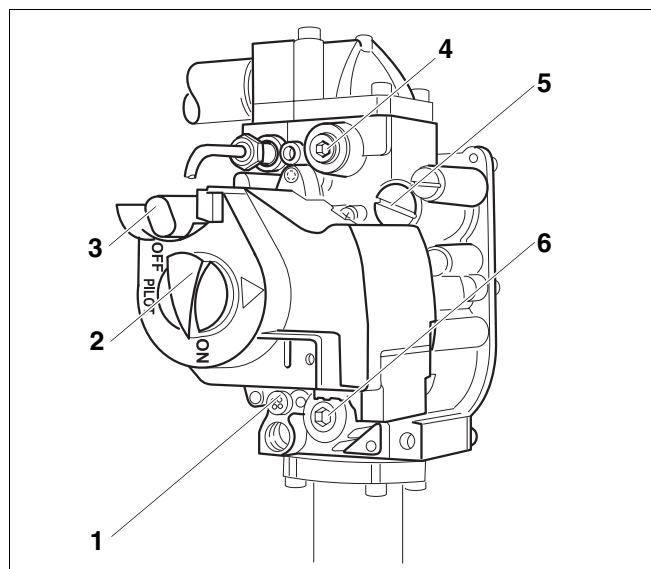

Fig. 16 G124X SP gas valve
46. Remove safety screw for pilot burner pressure setting (→ Fig. 16, page 16). Turn the inner adjustment screw clockwise to reduce the pilot flame and counterclockwise to enlarge the pilot flame.
47. After adjustment tighten the pilot burner pressure adjustment safety screw (→ Fig. 16) again.
48. Turn gas valve ON/OFF switch (→ Fig. 16) counterclockwise to ON position. The gas valve ON/OFF switch can only be set to ON if the red reset button is out.
52. If the main burner has ignited, the gas valve must be checked for leaks with soap solution. If no leaks are found, continue with step 54. If leaks have been found, switch ON/OFF switch on gas valve (→ Fig. 16) clockwise to the OFF position. Disconnect the heating system from the power supply.
56. Turn gas valve ON/OFF button (→ Fig. 16) clockwise to OFF position. The main burner flame and the pilot flame are extinguished.